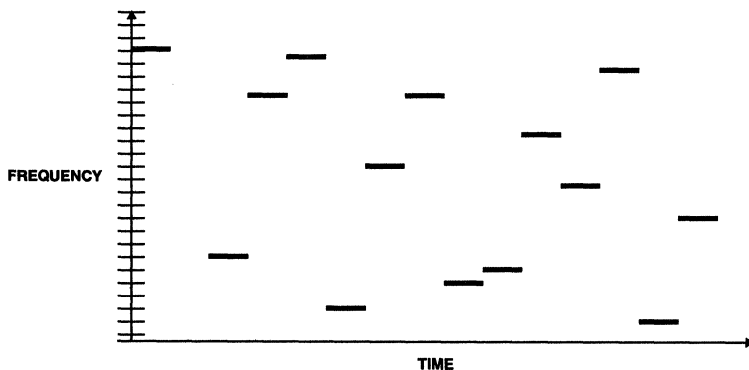

FIGURE 1. FH SPREAD SPECTRUM
radio techniques and these are features which are not common knowledge. The first term, spread spectrum, indicates a radio frequency modulation technique where the radio energy is spread over a much wider bandwidth than needed for the data rate. We do this to get some benefits that are not readily apparent. The easiest spread spectrum technique to explain is frequency hop (FH). In this technique, the channel being used is rapidly changed in a pseudo random pattern so that the communications appears to occupy a wide bandwidth over time. See Figure 1. This spreads the energy out so that the average power in any narrow part of the band is minimized. Of course, the transmitting and receiving radios need to synchronize their hopping patterns so that they hop together.